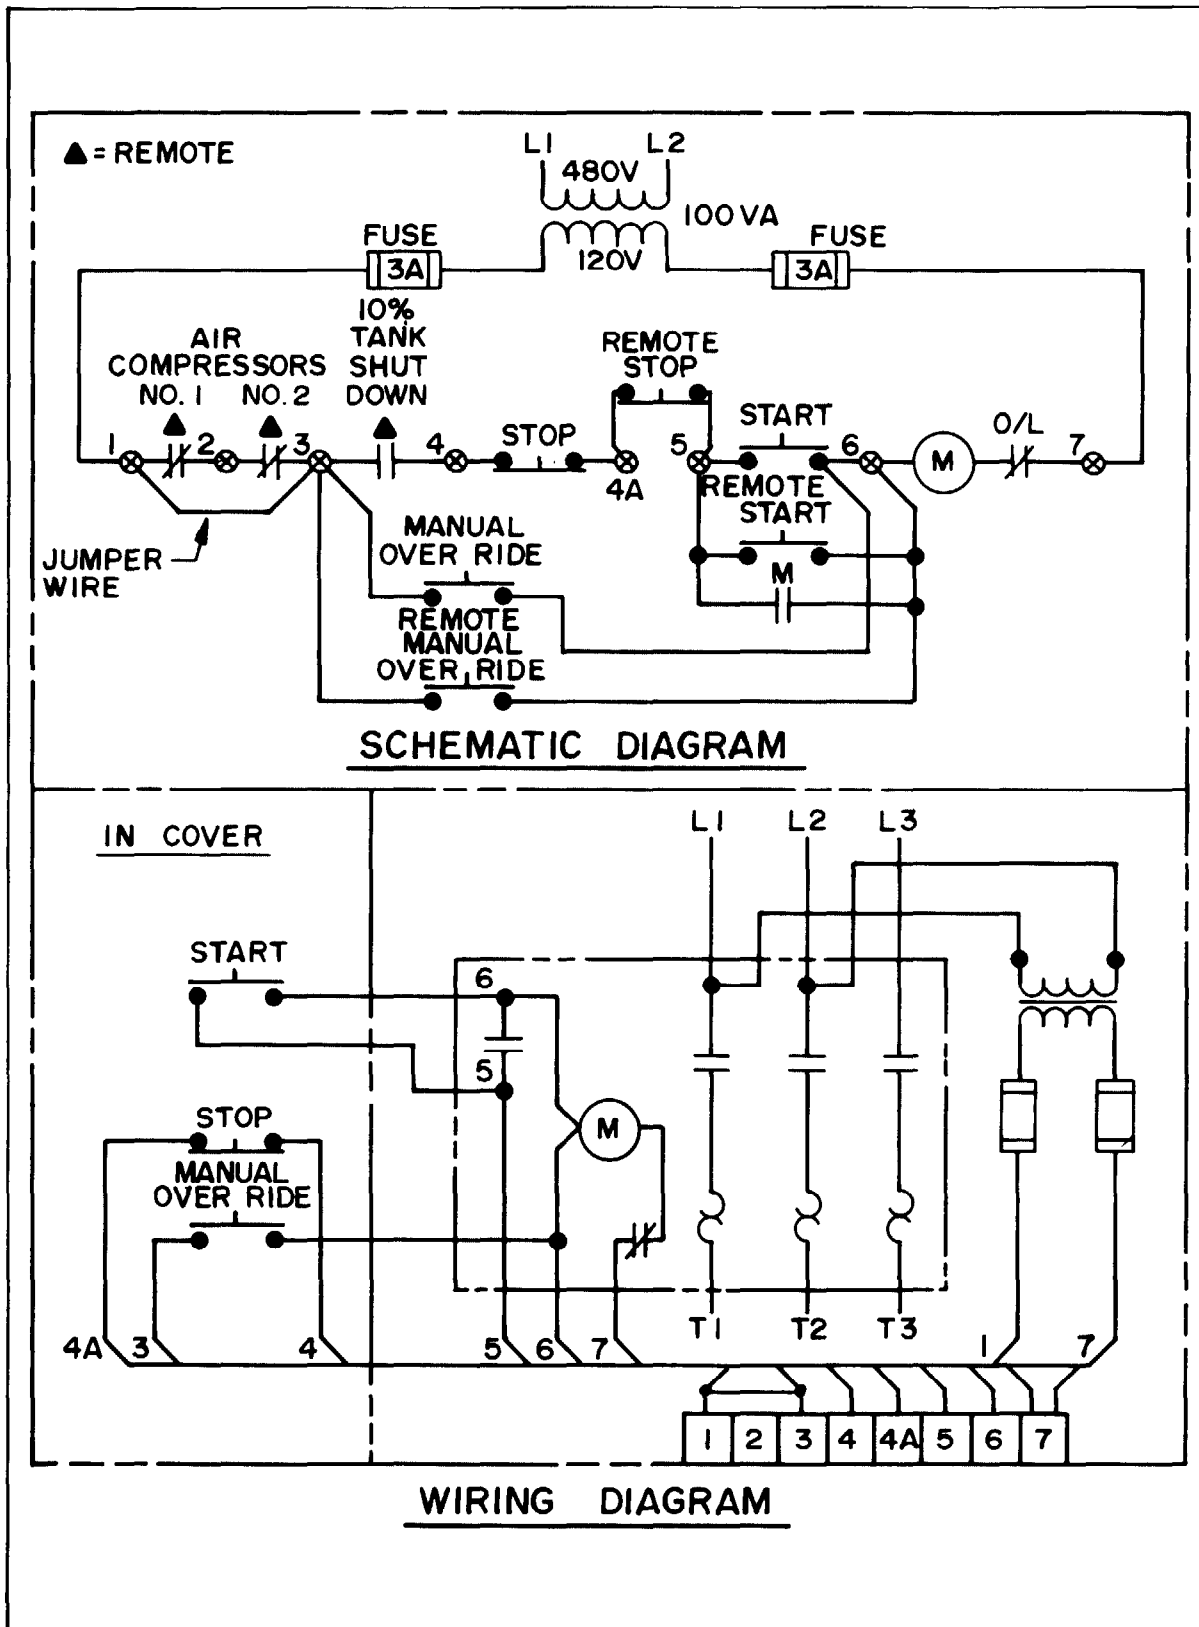

FIGURE 7-1
(1) Foreign objects can be removed from the impeller by unbolting the spool piece between the cutout valve and the pump suction inlet.
(2) When reassembling the impeller casing, all surfaces must be clean to form an airtight seal.
(3) A common cause of pump vibration is the failure of the motor bearings. Replace the bearings if the motor is ever flooded.
7.4.4 PUMP/AIR COMPRESSOR INTERLOCK CIRCUIT. The original electrical arrangement provided an interlocking circuit to prevent the cargo pumps from operating whenever the air compressors are in operation. However, testing has shown that they should be able to operate simultaneously. This trip feature should be bypassed by installing a short 14 gauge jumper wire in each pump controller between terminals 1 and 3, as shown in the controller schematic of Figure 7-1.